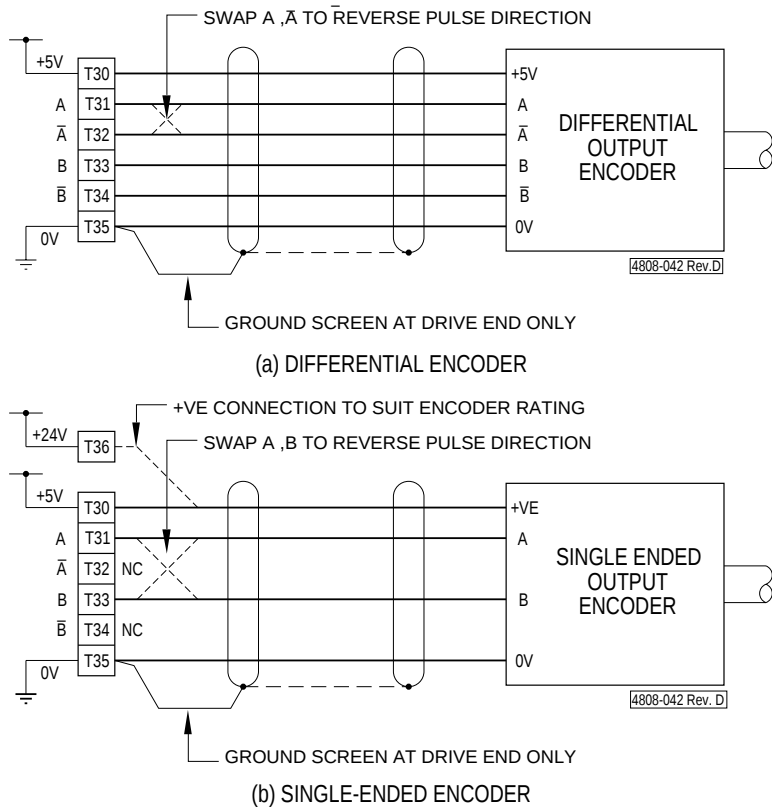

Figure 5.3: Shaft Encoder Connection Details
- 1 The Elite Series is designed for operation from a three phase earthed neutral supply. Input fuses are required. Details of the recommended fuse size are given in Figure 5.3. In all cases, observe all site, local and national wiring and safety regulations.